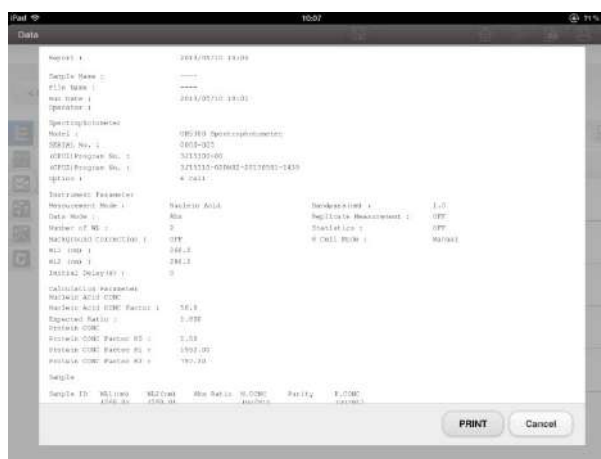

Fig. 4-128 Print Preview Window
- (3) Print preview (Fig. 4-128) will be shown.